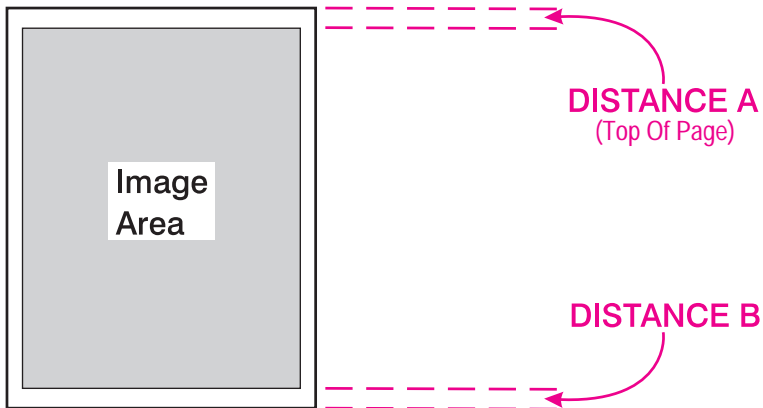

Figure 4-1 Image Area Margins
- 3 See figure 4-1 and compare distance A to distance B.